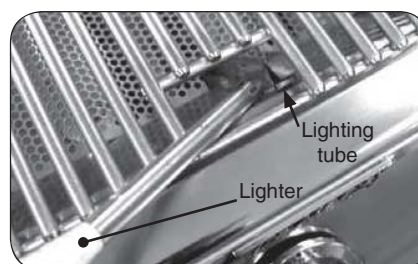

Fig. 11-2 - Manual lighting
2. Insert either a burning long-barrel butane lighter or a burning long-stem match through the cooking grid opening to the top of the lighting tube. (Fig. 11-2).
4. If the burner does not light, **immediately depress the knob and turn the valve to OFF**. **WAIT FIVE (5) MINUTES** before repeating steps 2 through 4 of the **MANUAL LIGHTING** instructions.